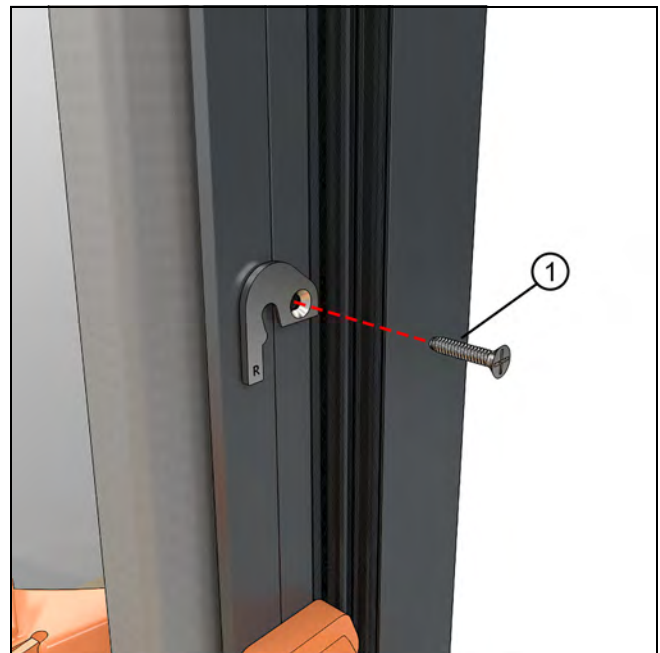

Figure 242 Stationary brackets
22. Complete shimming and fastening around the entire perimeter using the installation holes and/or hardware holes. See Figure 240, Figure 241, Figure 242, and Figure 243.